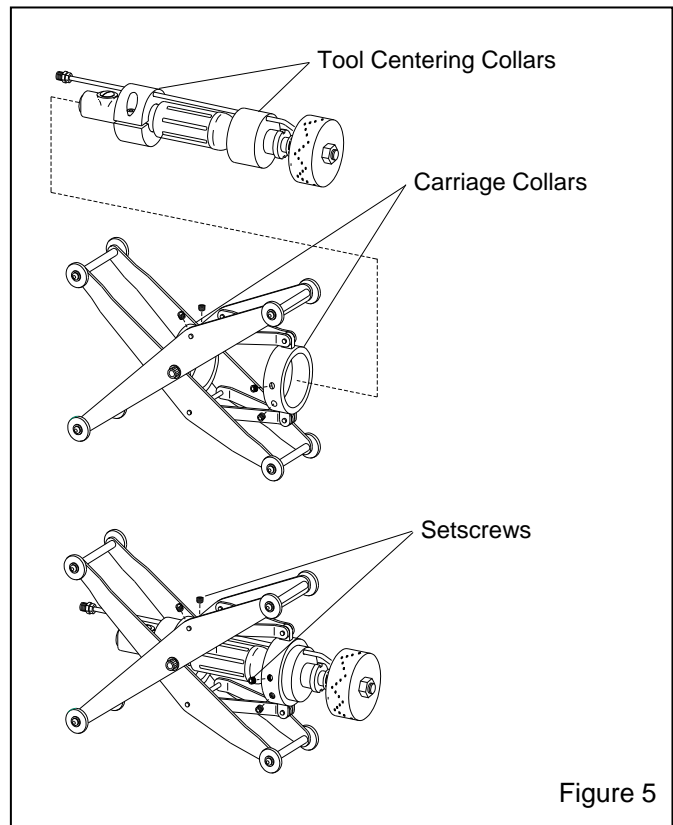

Figure 5
2.2.3 SK-817 with 8" to 17" carriage, ref. Figure 5
2.2.3.1 Expand the carriage to the approximate ID of the pipe, and then insert the tool through the carriage collars, as shown in Figure 5. Align the tool's centering collars with the carriage collars. Make sure the end of the tool extends past the front tool collar. If the set screws miss the tool collars, move the tool collars(s) as needed.